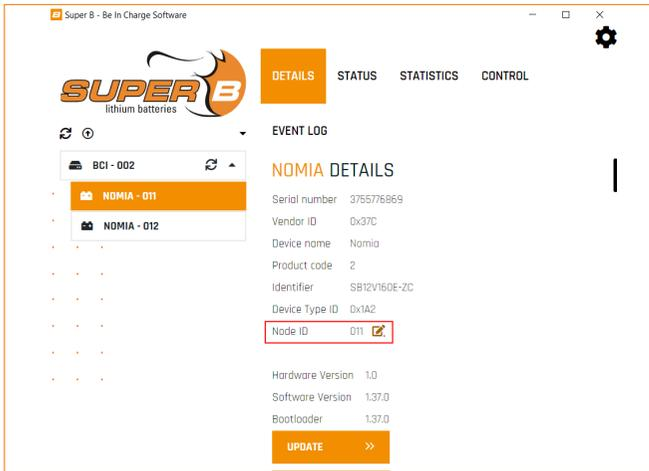

Figure 13. Change the battery 'Node ID' of the first Li-ion battery
4. Navigate to the 'Details' page and make sure to change the battery node ID of the first battery to 11 (Figure 13 and 14)